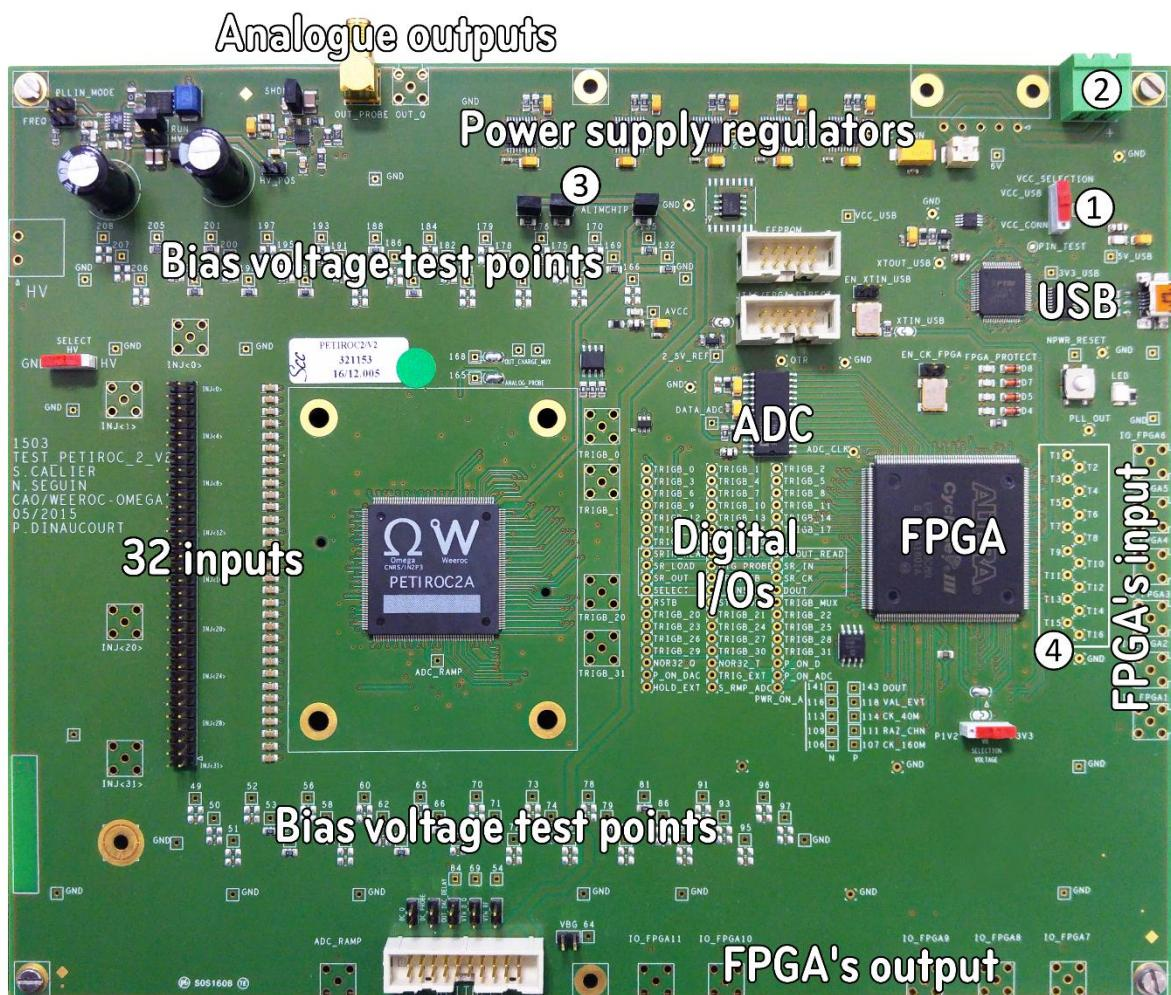

Figure 1 – Top view
- A "VCC_SELECTION" jumper (1) allow to choose whether the board is powered through the USB connection or using an external power supply plugged to the top right connector of the board (~6V, (2)). The power consumption of the chip can be checked with a voltmeter connected to the dedicated test point
"ALIMCHIP" (3). On the Figure 1 the "VCC_SELECTION" is set on "VCC_USB" so there is no need to plug an external power supply.
- Many test points are also connected to the FPGA ("T1" to "T16", (4)), allowing outputting digital internal nodes.